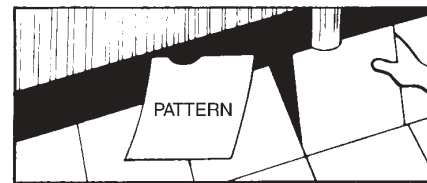

Figure 5 — Straight cuts.
- **Straight Cuts** — Place loose tiles directly over the top of the last full row of tile making sure all edges are lined up. Using a whole tile as a measuring device, position one edge against the wall and mark the loose tile with a pencil along the opposite edge (Figure 5).